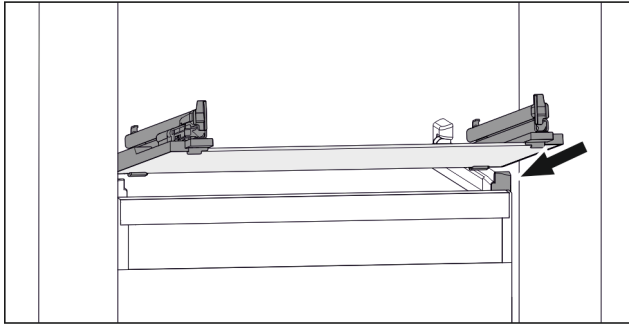

Fig. 45 Example illustration of glass shelf
- Position glass shelf at an angle behind the stoppers. (see Fig. 45)